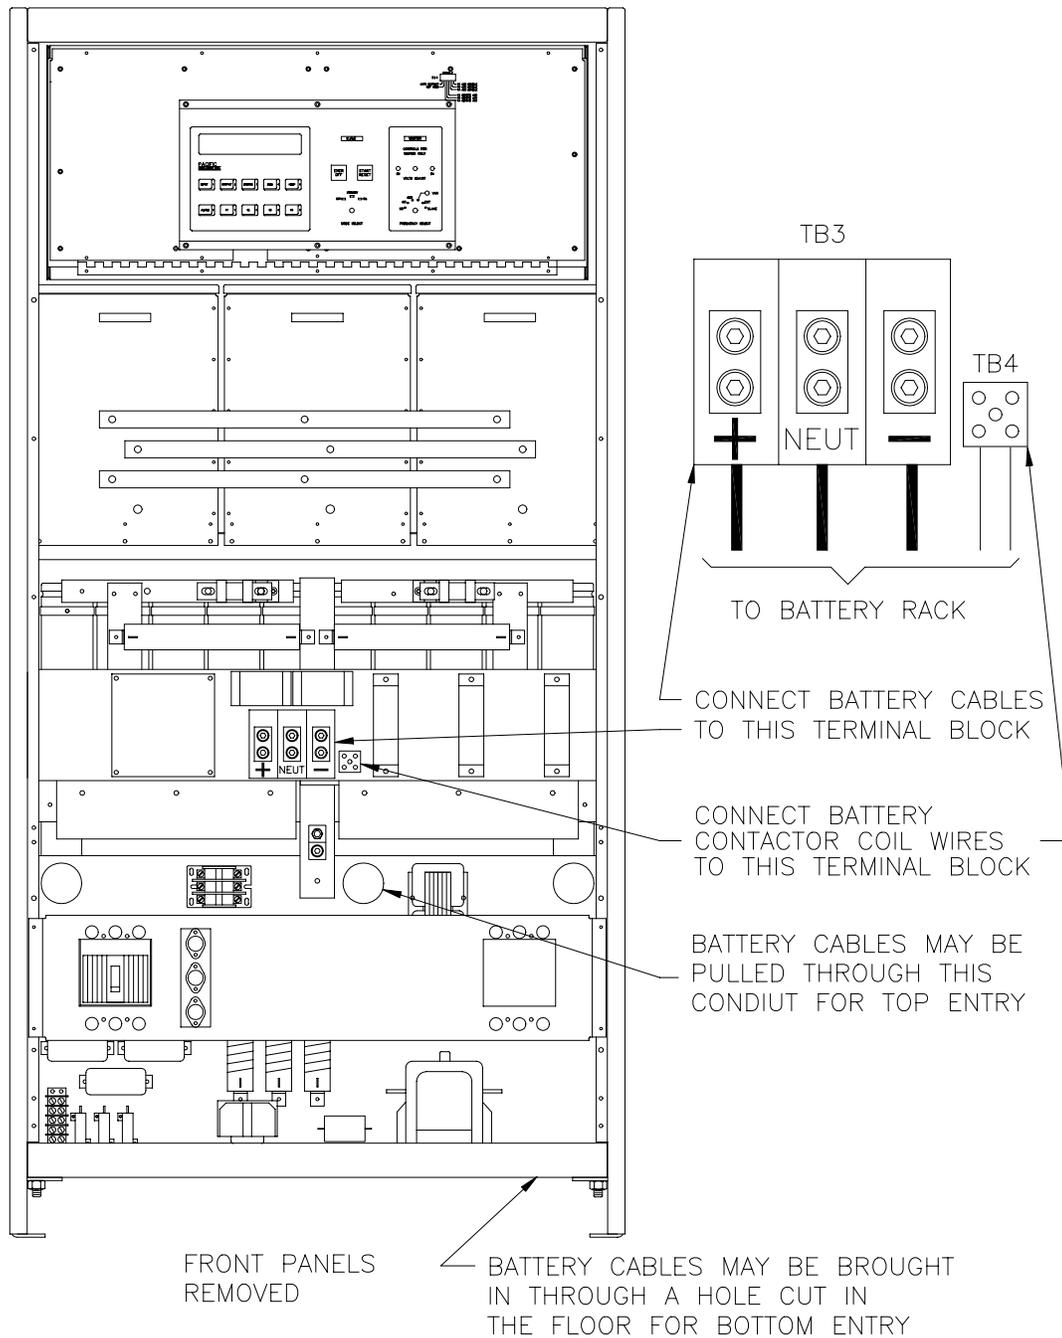

FIGURE 3.7.2 UPS CABINET BATTERY TERMINAL DETAIL
- 3 REFER TO FIGURES 3.7.2 AND 3.7.3.
Power wiring between the UPS Cabinet and the battery cabinet should be 1/0 copper. The terminals which connect these wires are the compression types. Refer to figures 3.7.2 and 3.7.3. It is mandatory that these connections are clean and tightened properly. Be sure to observe polarity, positive to positive, negative to negative and neutral to neutral. The hex screw of these terminals must be torqued to 150 inch/lbs.
The battery contactor coil wires from the battery cabinet to the UPS Cabinet should be a minimum of 18 AWG. Single conductors or jacketed cable is acceptable. Connections are made via a 2 terminal barrier strip as shown in figure 3.7.2 directly to the battery contactor coil as shown in figure 3.7.3. The battery contactor coil wires may be interchanged.